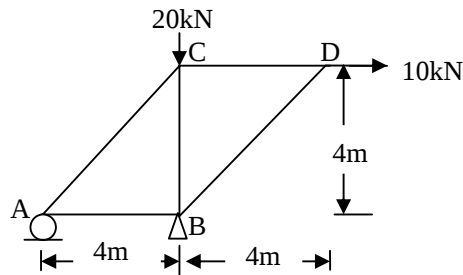

Fig.3
- Q.5 (a)** Determine internal forces in all members of a truss shown in fig.3 **07**